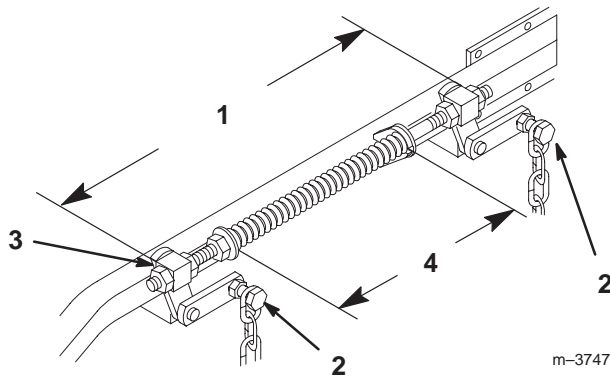

Figure 59
- Loosen the 4 top chain bolts in the slots. Check the length of the rod/swivel assemblies. The distance from the outside of the rear swivel to the outside of the front swivel should be 19-17/32 inch (496 mm) (Fig. 59). Make sure that all four swivels move freely in the holes.
- Adjust the compression springs by turning the front spring nuts so that the distance between the two large washers is 11 inch (279 mm) (Fig. 59). Clockwise will shorten the spring; counterclockwise will lengthen the spring.